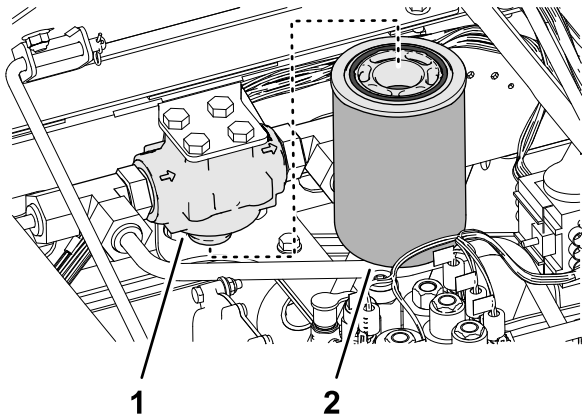

Figure 116
- 3. Clean the area around the charge filter and filter head (Figure 116).